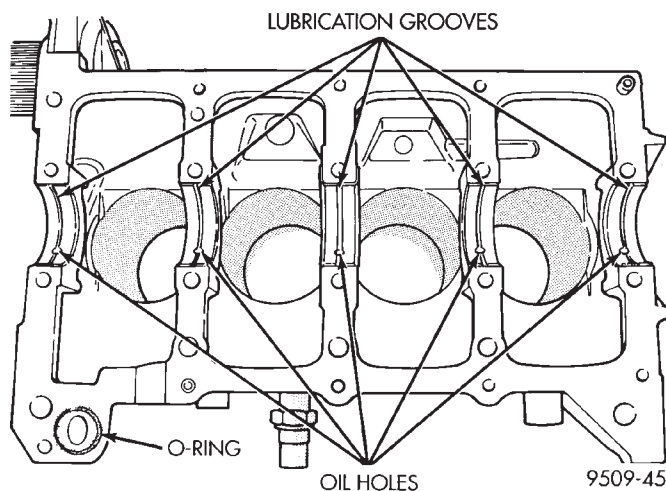

Fig. 81 Installing Main Bearing Upper Shell
(1) Install the main bearing shells with the lubrication groove in the cylinder block. Install O-ring into recess in the block (Fig. 81).
(2) Make certain oil holes in block line up with oil hole in bearings and bearing tabs seat in the block tab slots.